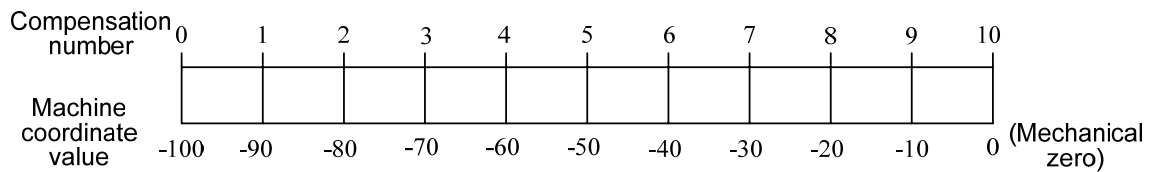

Fig. 4-7-1
- ① The dimension of the pitch compensation number for each compensation point is corresponding to the one of the coordinate value by this point; that is, the bigger the compensation point of the machine coordinate value is, the bigger the corresponding compensation number is.
- ② When the pitch error compensation is set as required in one area, usually, the compensation number of its least compensation point which locates on the coordinate system of this area is regarded as 0. The pitch compensation number of reference point is determined by the position relationships between the reference point and the No.0 compensation point.
- ③ **For example:** It is supposed that the travel of the machine is 100mm, the compensation interval of the pitch error is 10mm, and the compensation number is from No.0 to No.10. And then, the pitch compensation number of the reference point is decided as follows:
A. The zero direction of the machine is the positive one. The least value of the machine coordinate system in this area is -100, then the compensation number on the -100 point treats as 0; and therefore, the compensation number of the reference point can be calculated as No.10 based upon the position relationships between the reference point and No.0 compensation point; refer to the Fig. 4-7-1: